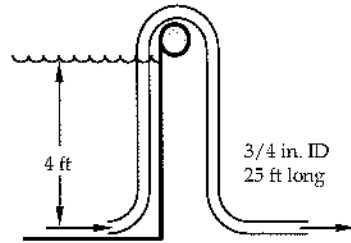

FIGURE P2.46.
46. A garden hose is used as a siphon to drain a pool, as shown in Figure P2.46. The garden hose has a 3/4-in. inside diameter. Assuming no friction, calculate the flow rate of water through the hose if the hose is 25 ft long.